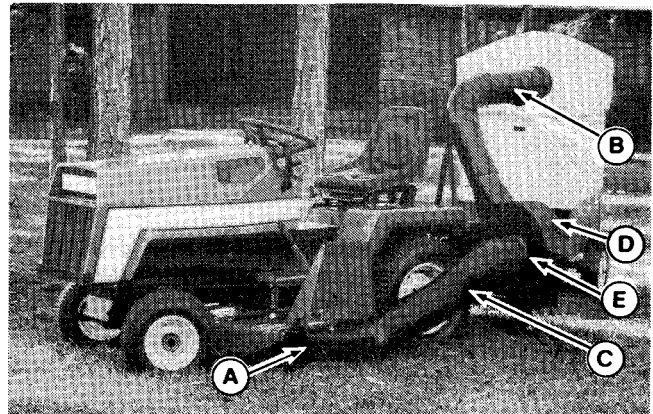

Figure 5.
1. Refer to instructions supplied with mower adapter to install adapter (A, figure 5). Install hose (C) onto mower adapter. Attach to housing (D) with clamp (E). Tighten screw and nut securely.
4. Connect the hose (B, figure 5) to vacuum collector and cart using clamps and hardware.
1. Remove the adapter (A, figure 5) from the mower. Lower the deflector to original position.